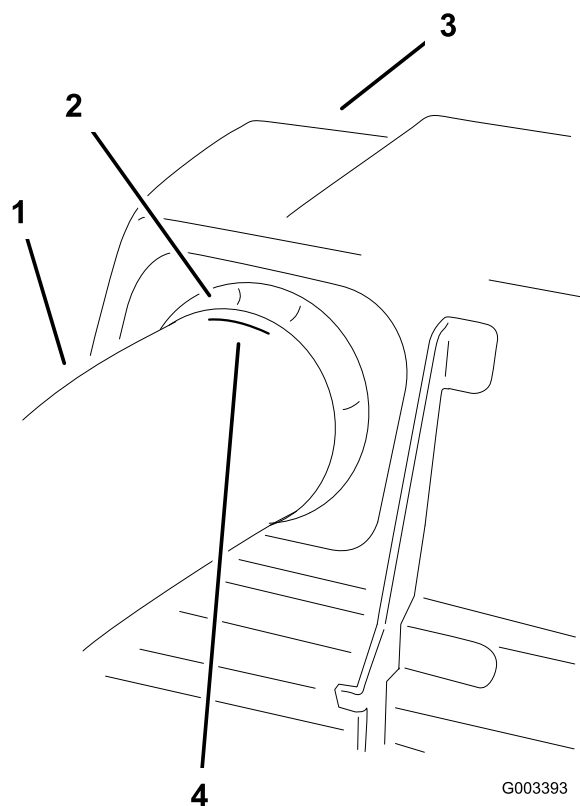

Figure 22
7. Once the 3/4 inch (19 mm) measurement has been achieved, mark the upper tube on the out side where the rubber seal protrudes out. This is marked to ensure the correct position for the upper tube when drilling the holes and connecting the upper and lower tubes (Figure 22).
11. Check to make sure the mark from Figure 22 is still in place.